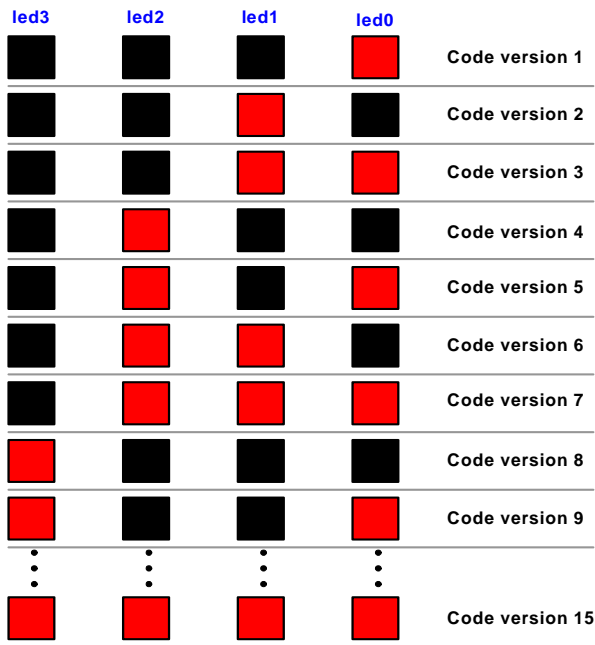
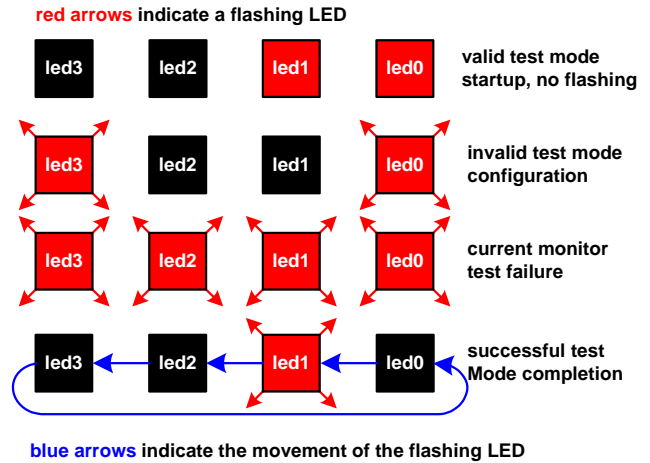

FIGURE 25. CODE VERSION NUMBERS
FIGURE 26. EXAMPLES OF LED TEST STATUS
7. If led0 and led3 are flashing or if no LEDs are on, the test mode was not initiated correctly, the board is faulty or the microcontroller is not programmed. To confirm, restart the test mode setup. If one or more LEDs are on **without** flashing, the test mode is now active. At this point the binary combination of the on LEDs indicates the **version number** of the firmware (see Figure 25). Figure 26 shows other examples of faulty setup or failed test results.